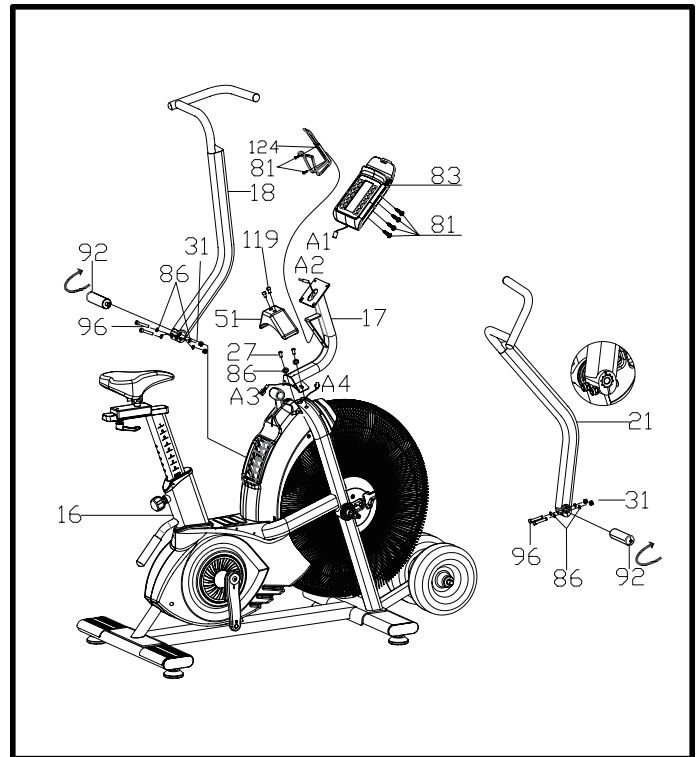

Fig. 3
### STEP 3 (FIG.3):
**NOTE:** If there is no input from key operations or RPM signals within 4 minutes, the LCD will automatically switch to Sleep Mode (as shown in Figure 3).
(FIG 3)